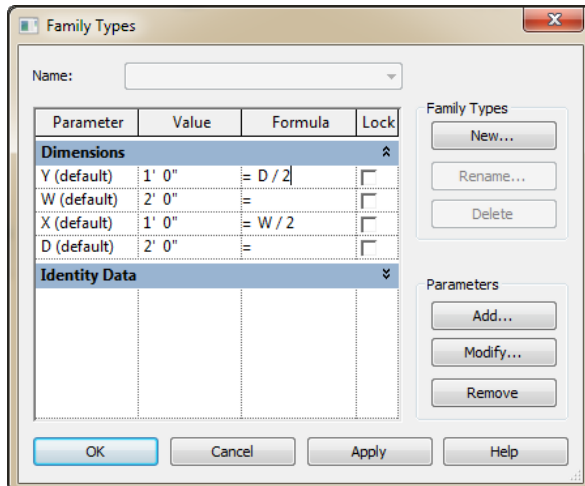

Figure 8—Edit the parameters to prepare them for the ellipse
5. Add another Length parameter named: **Y** and then click OK. For the Formula, type: **D / 2** and then click OK (see Figure 8).